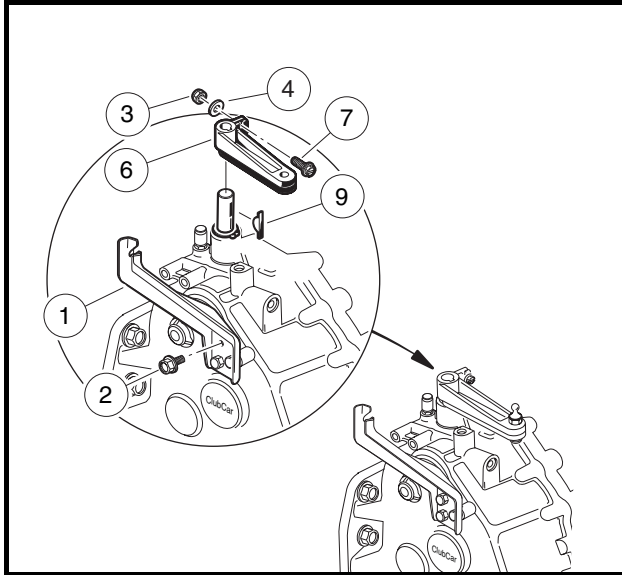

Figure 16-35 Forward/Reverse Shifter Bracket
- 5.10. Remove screws (2) securing the Forward/Reverse shifter cable bracket (1) to transaxle and remove the shifter bracket (**Figure 16-35, Page 16-15**).
- 26.1. Install the three screws (2) securing the Forward/Reverse shifter cable bracket (1) to transaxle and tighten them to 135 in-lb (15.3 N·m) (**Figure 16-35, Page 16-15**).